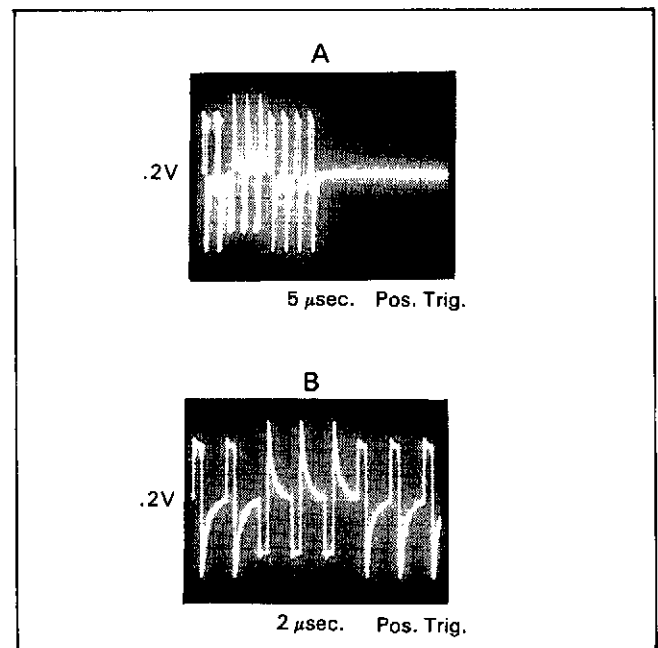

Figure 8-A-11. Output of T2.
c. Measure for the waveform shown in Figure 8-A-12A at pin 6 of U21. (Figure 8-A-12B shows the ex-